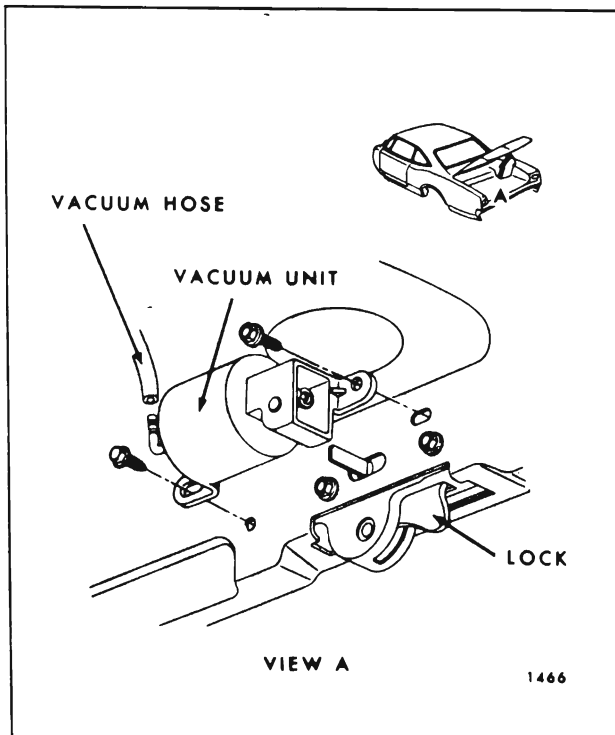

Fig. 8-17 - Rear Compartment Vacuum Release Unit
2. Disconnect vacuum hose from vacuum release unit. Remove attaching bolts shown in illustration and remove vacuum unit (Figs. 8-17 and 8-18 for typical illustrations).